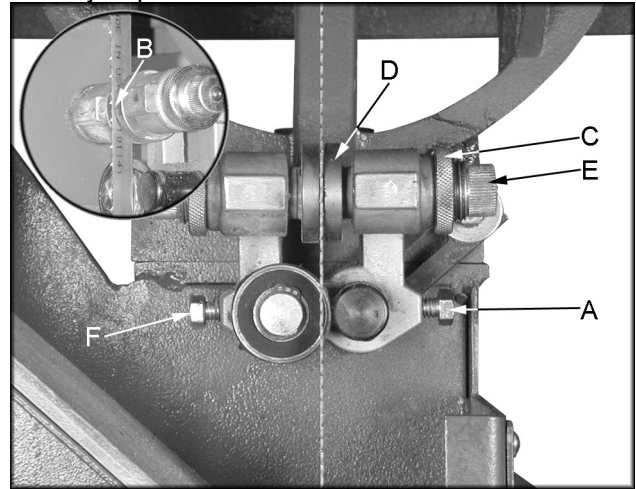

Figure 7
3. Loosen bolt (A, Figure 7) and position the blade guide assembly so that the guides rest just behind the gullet of the blade teeth (B, Figure 7). Tighten the bolt.
4. Loosen the knurled jam nuts (C, Figure 7) that lock the guide (D, Figure 7) in place.
5. Turn the knurled knob (E, Figure 7) so that the guides rest lightly against the blade, approximately 0.003" away from the side of the blade, about the thickness of a piece of paper. Do not force the guides against the side of the blade. Tighten knurled jam nuts while holding the knurled knobs.
6. Adjust the blade support bearing so that it is 0.003" away from the back of the blade, about the thickness of a piece of paper. To make this adjustment loosen bolt (F, Figure 7) and slide the bearing and bearing post into position. Tighten the bolt.